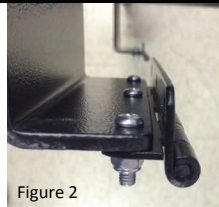
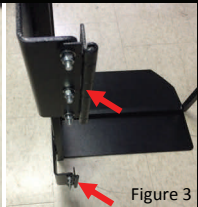

Figure 2
Figure 3
-Using 6x (#2, #4 and #5), attach both (#7)'s to (#13) as shown in Figure 3. Match the bolt direction and hinge layout shown in Figure 2.